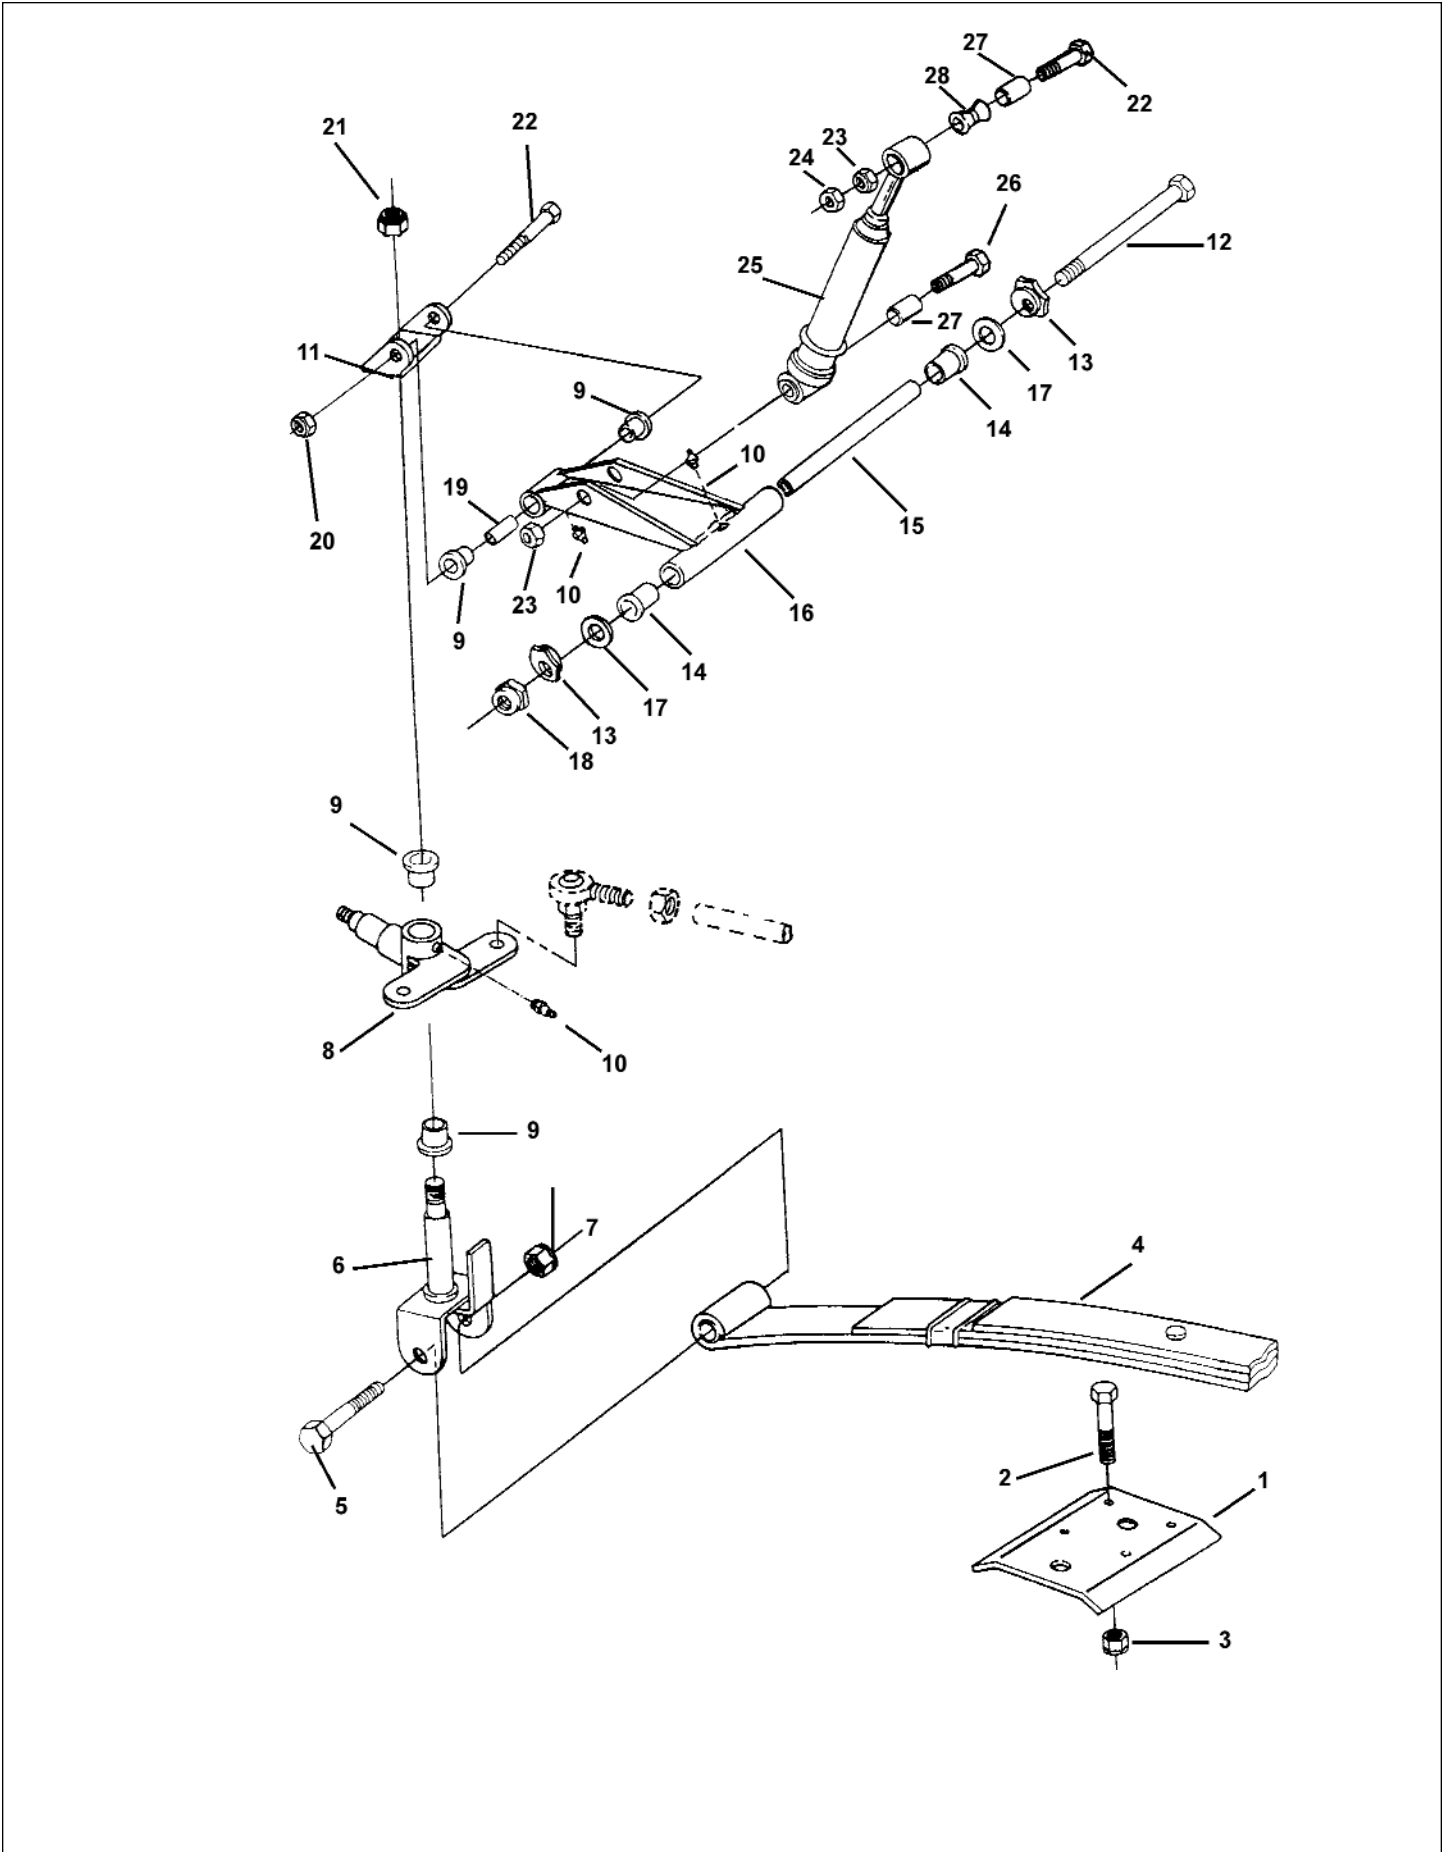

Figure 7 - Front Suspension
3. Remove kingpin nut at top of steering arm. See Figure 7, #21.
5. Remove bolt holding kingpin to leaf spring. See Figure 7, #5.
6. Remove kingpin bracket and bearing spacer from A-arm. See Figure 7, #11 & #19.
7. Remove two bolts holding shock absorber to frame and A-arm. Remove shock absorber. See Figure 7, #26 & #22.
8. Remove long bolt (#12), holding A-arm and camber adjuster to frame. Remove A-arm (#16), camber adjusters (#18) and washers (#17). See Figure 7.
2. Assemble A-arm with long and short spacer (#15 & #19), camber adjusters (# 13), washers (#17) and long bolt (#12) into frame. Do not torque at this time. See Figure 7.
3. Install shock absorbers (#25). See Figure 7.